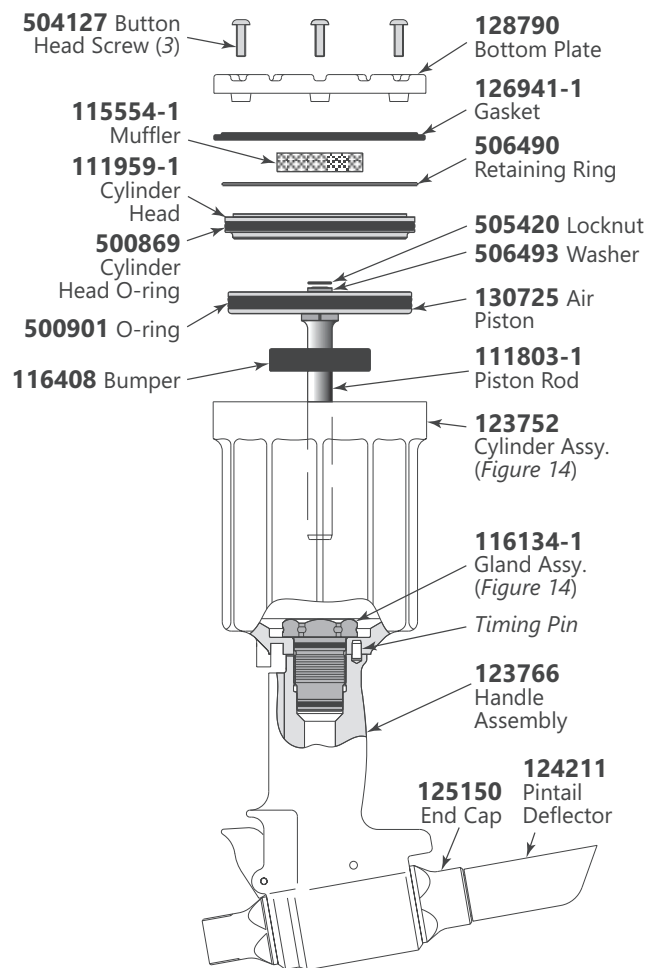

FIGURE 2
4. Models **202** & **202L**: Pull pintail deflector off the end cap. (Figure 2)
6. Secure the tool in a vise, upside-down. (Figure 2) Remove button-head screws with a 1/8" hex key. Remove end cap and gasket, and remove muffler from the end cap. Remove spring from the throttle valve. (Figure 14)
7. Tap down cylinder head with a soft mallet (to take pressure off the ring), and remove retaining ring. (Figure 2)
- Remove retaining ring from gland, and then pull out spacer and Polyseal. (Figure 2) Remove O-rings, Quad-ring, and Back-up ring.
- Lift cylinder from handle/head. (Figure 2)
- Remove throttle valve from air cylinder, and remove O-rings. (Figure 2)
This procedure is applicable to **all 202** series tools. For component identification, see Figures 2, 7, 14, & 15.
1. Secure head/handle upside-down in a soft-jaw vise. (Figure 2) Place inverted cylinder assembly on the base of the handle. (The timing pin maintains orientation.)
7. Position muffler in center of cylinder head. Position gasket on the cylinder. (Figure 2) Note the direction of the lip in Figure 7.
NOTE: Make sure that the muffler is properly positioned in the recess of the bottom plate. (Figures 2 & 14)
9. Secure the bottom plate with three button-head screws using a 1/8" hex key. (Figure 2)